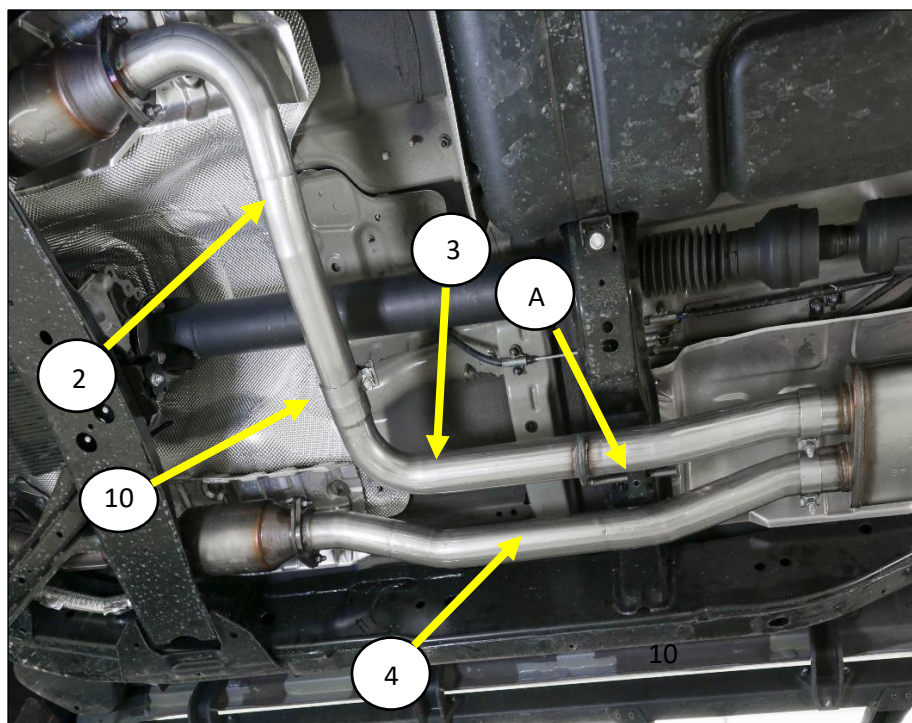

Figure 3
7. Install a 2.5" band clamp (10) on to each muffler inlet pipe. Position with the bolts in the center and nuts facing down. **Fig.3**
8. Install the Flowmaster Muffler (1) on to the inlet pipes with the Flowmaster logo facing down. Support the muffler from hanging on the inlet pipes. **Fig.3**